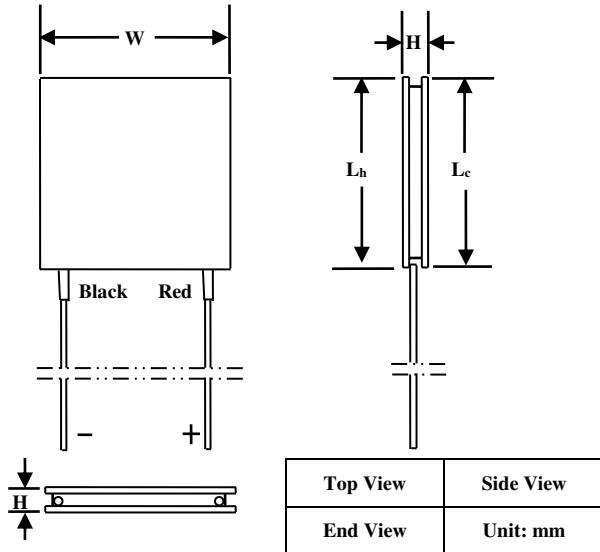
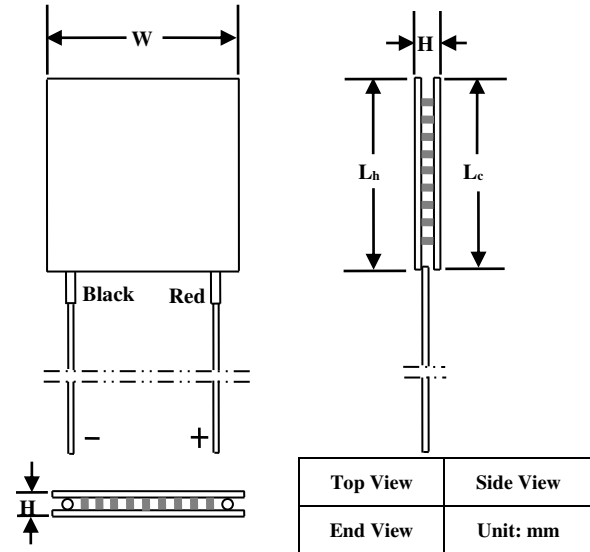

Figure 2. Mechanical Dimensions of Sealed TEC
Figure 3. Mechanical Dimensions of Non-sealed TEC
The ATE1-TC-199 TECs come with 2 insulated lead wires. The positive wire is in red color, and the negative wire is of black. The mechanical dimensions are shown in Figure 2, Figure 3 and Table 1.
**Note:** As Figure 2 shows, when the red lead wire is on the right, then the top surface is the cold side of the TEC